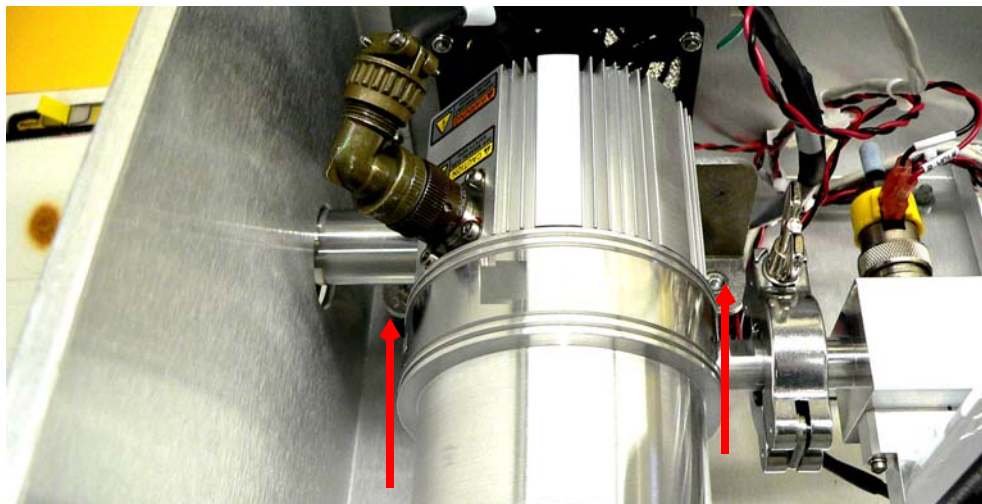

Figure B-6 Pump Feet Nuts
7. Use a 10 mm nut driver to remove the two nuts holding the feet (Figure B-6).
13. Use a 10 mm nut driver to reinstall the two nuts holding the feet (Figure B-6 on page B-5).